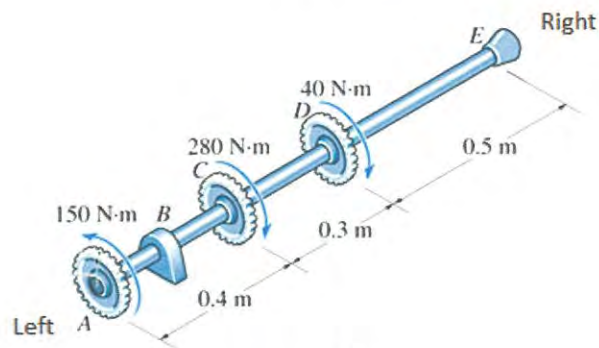

Figure Q4(a)
- Q4** (a) Determine the torque exerted on the shaft at point E and draw the torque diagram for the gear-shaft system shown in **Figure Q4(a)**. (Use the right hand rule and assume the positive torque is directed to the left hand side).